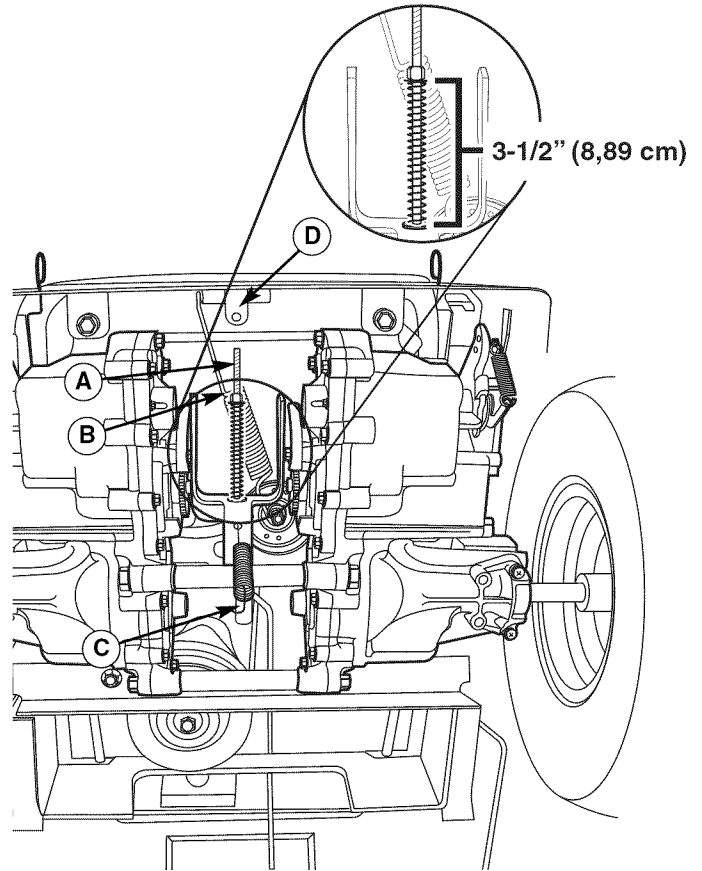

Figure 36. Brake Adjustment
4. Locate the brake rod (A, Figure 36) and adjustment nut (B).
5. Measure the parking brake spring. Its compressed length, with the parking brake lever in the ENGAGE position, should be 3-1/2" (8,89 cm). Adjust the spring length by turning the adjustment nut (B), if necessary.